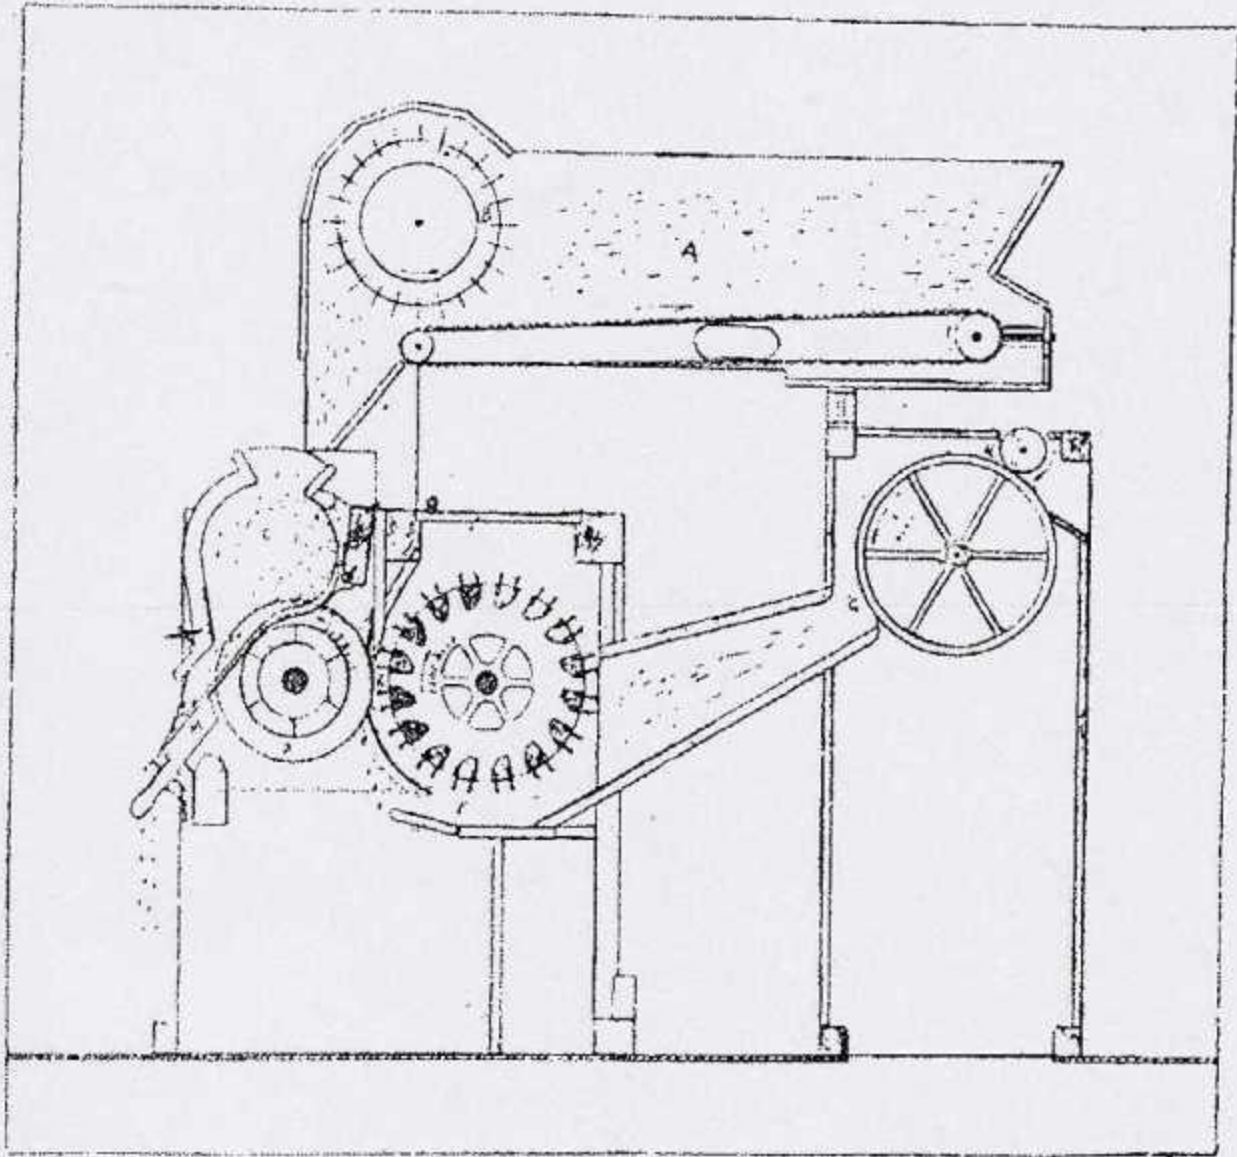

FIG. 21.
Fig. 21 is a section showing the principal working parts of the gin of to-day.
**Saw Gin, Fig. 21, Lettering.**
Figs. 21 and 22 exhibit practically the same gin as was used in horse power gin houses shown in Fig. 12, except that feeder and condenser are added.
A gin without a condenser blows the loose, fluffy cotton into a separate room, from which it must be carried out in baskets to the press. The addition of the condenser, as in Figs. 21 and 22, greatly reduces the danger from fire, and enables the machinery to be more compactly arranged